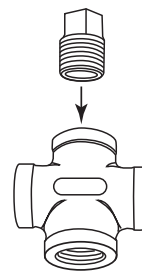

Fig. 3 Threading plug into cross fitting
2. Thread the 1/2" NPT plug into a port on the cross fitting until hand tight. This port can be any of the four ports of the cross fitting. See fig. 3.